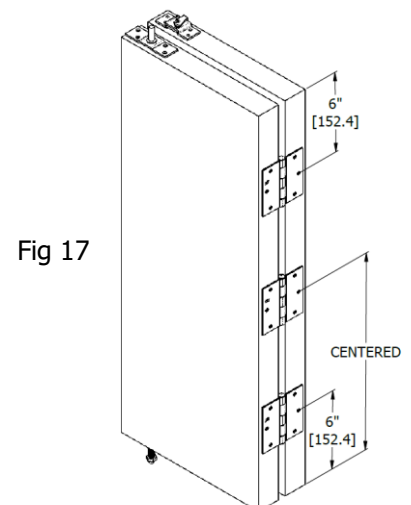

Fig 17
- Mortise the Hinges to the doors (Fig 17)
- Secure the hinges with (#10x3/4") screws (Fig 17)